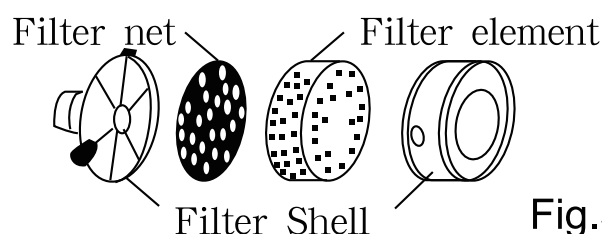

Fig.5
b. Clean the filter every 100 hours. (Figure 5)